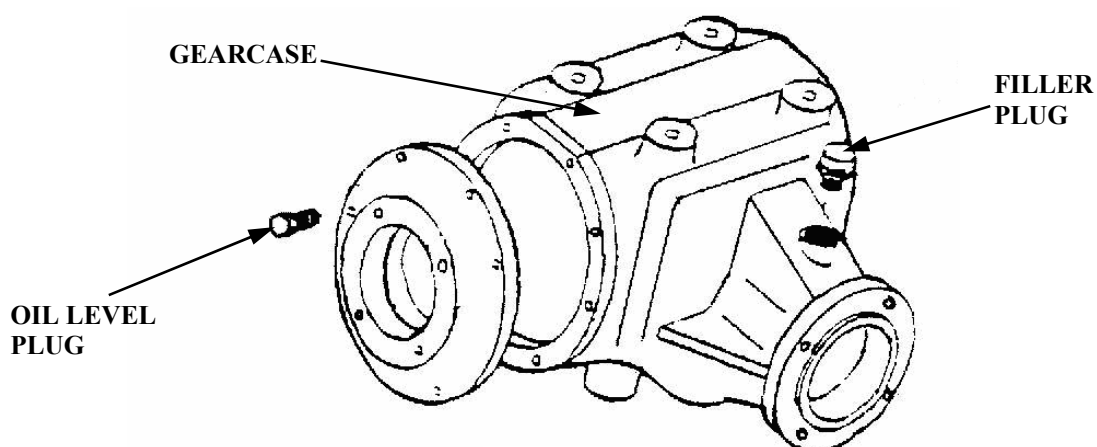

FIG. 3
- Check gearbox correct oil level. To proceed, remove the oil level screw (see fig. 3). If needed to add oil, remove the filler screw located on top of the box, and fill in until oil starts running out of the level hole.